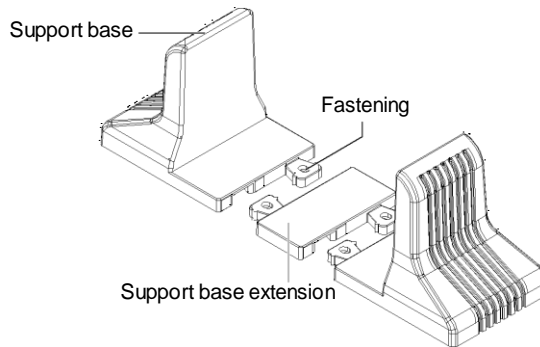

Figure 2-1 Connecting the support base with support base extension
1. Assemble a pair of support bases (accessories) and a support base extension (accessory) together through fastenings, as shown in Figure 2-1.